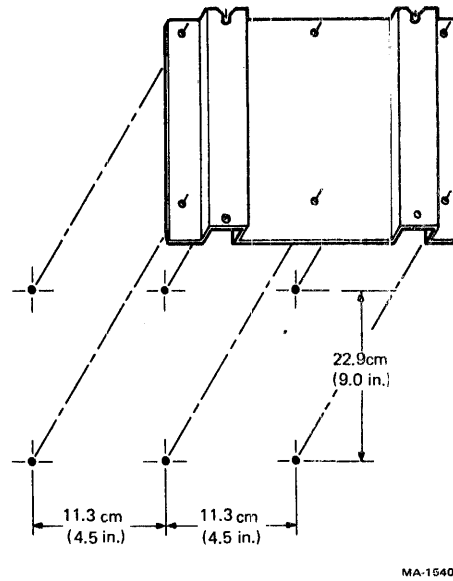

Figure 2-2 Wall Mount Hole Location
4. Fasten the wall mounting plate to the wall in the desired location. (See Figure 2-2.)